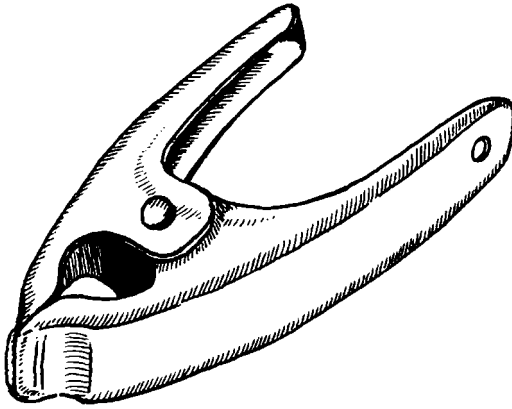

Figure D.14 Spring clamp (grip clamp).
- Small spring clamps (grip clamps) (see Figure D.14)